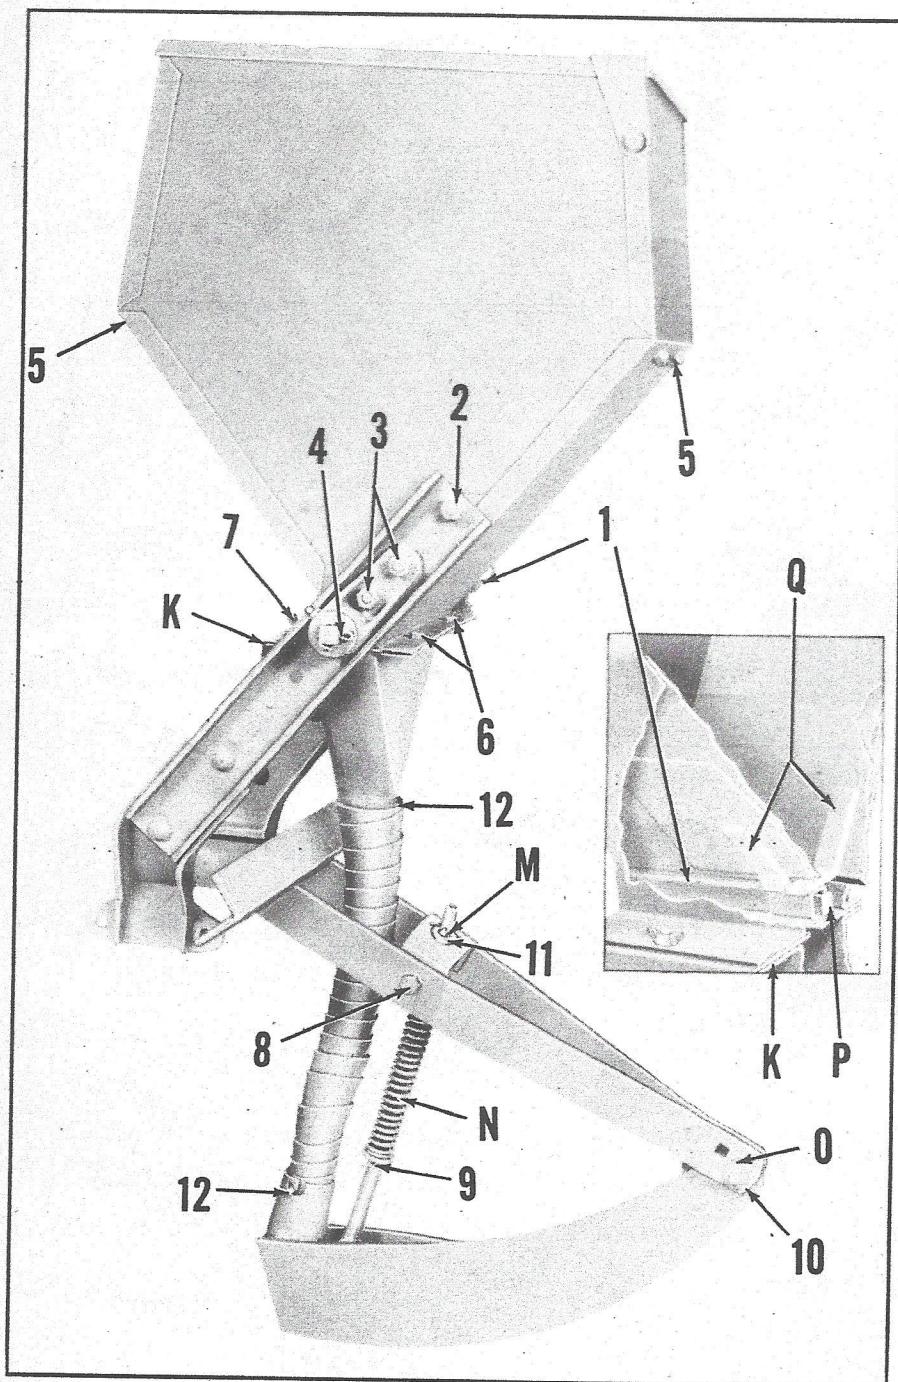

Fig. 13
When attempting to apply extremely dry, free-running fertilizer, the metering plate K, Fig. 13, should be moved rearwardly to the extent of the slotted hole to decrease the flow of fertilizer. A field check of output must be made after this adjustment.
Depth of application is controlled by raising or lowering the depth rod M, Fig. 13, until the correct depth is obtained. Due to variable soil and seedbed conditions, this adjustment must be checked in the field. The holes on the depth rod are spaced at $3/4$ " intervals and the depth of fertilizer placement can be changed by varying the location of the cotter pin and washer. A spring N, Fig. 13, is placed under the depth rod brace to permit the runner to float upward and return to the specified depth, if an obstruction
To provide a vertical adjustment of the front of the runner, two holes are located in the runner bracket assembly, O, Fig. 13, in which the runner may be bolted.
As the press wheel of the planter rotates, the fertilizer sprockets drive the feeder shaft P, Fig. 13. Both sides of the hopper have agitators with arms Q, Fig. 13, riding on a raised cam at the center of the square shaft. As the shaft rotates, a vibration is set up in the agitator plates. This prevents the fertilizer from "bridging" and piling up on the sides of the hoppers, thus assuring free and even feeding to the fluted tube feed shaft.
6. Bolt front of hopper funnel assembly to hopper, placing metering plate K, Fig. 13, between both units. Use $5/16''$ x $5/8''$ bolts.